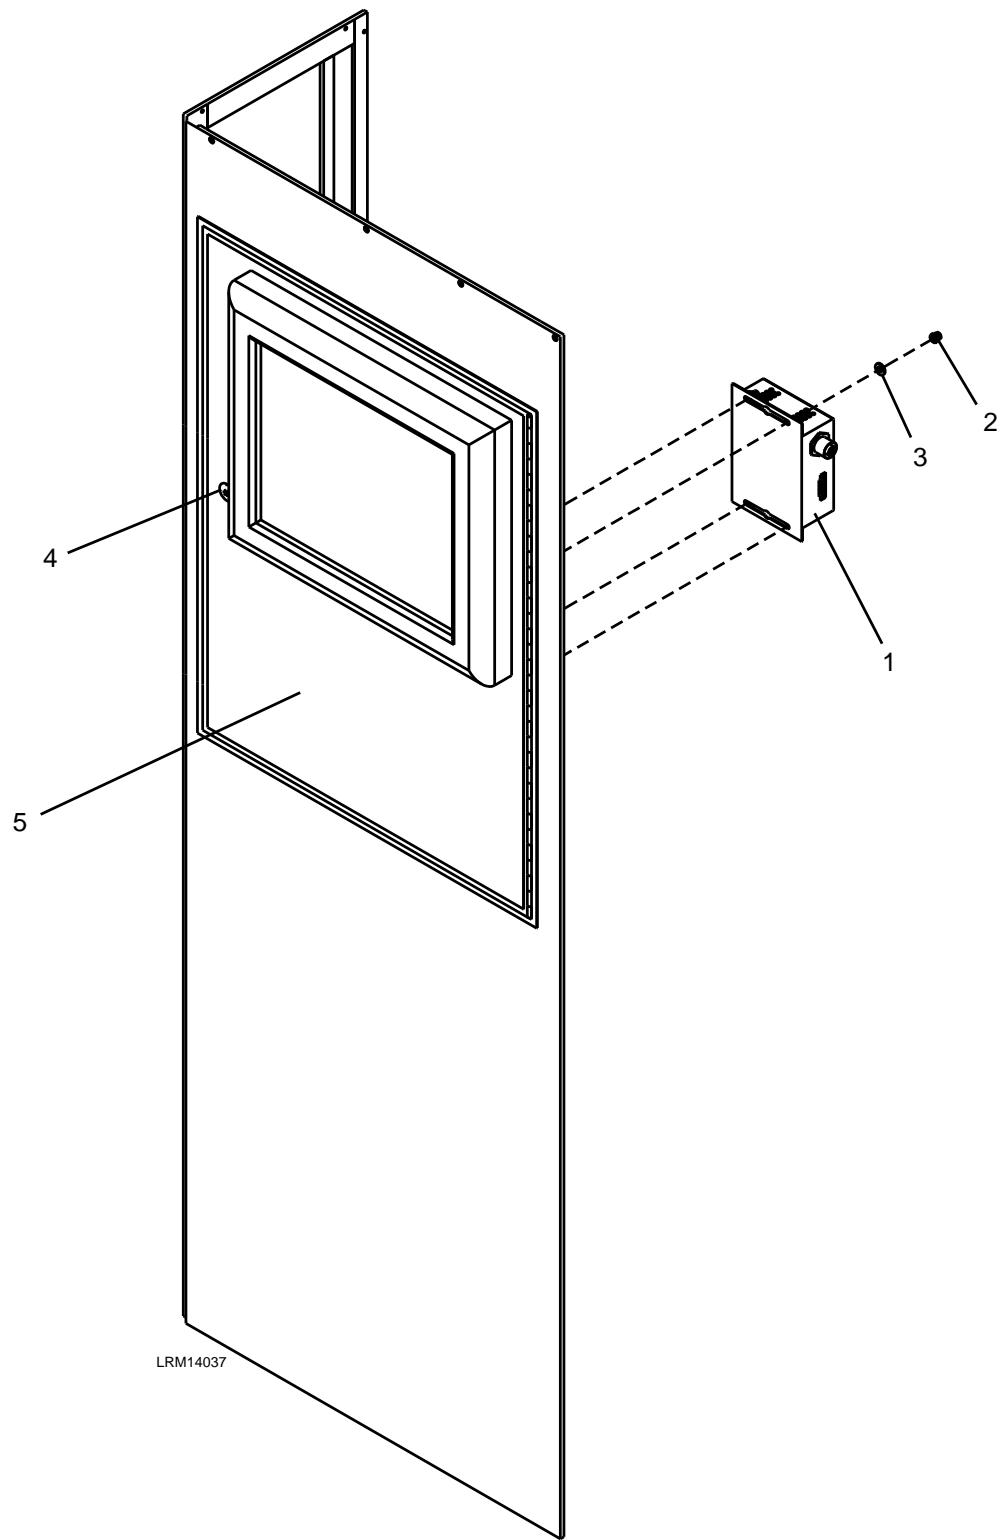

Figure 7-5: VGA Extender Receive Unit
1. Unlock the single lock (4) and open the locker door panel (5) to access the VGA Extender Receive Unit (1) hardware and disconnect the electrical connections using a Torque Screwdriver for the M12 connections. See Figure 7-5.
2. Remove the four M4 hexagon nuts (2) and M4 plain washers (3).
3. Carefully remove the VGA Extender Receive Unit (1).